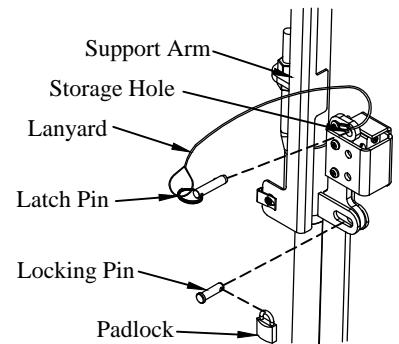

Figure 25: Platform lock.
10. **Insert** the latch pin into the storage hole (Figure 25).
11. **Insert** the locking pin through the hole in the passenger side support arm (Figure 25).
12. **Lock** the padlock through the hole in the locking pin (Figure 25).